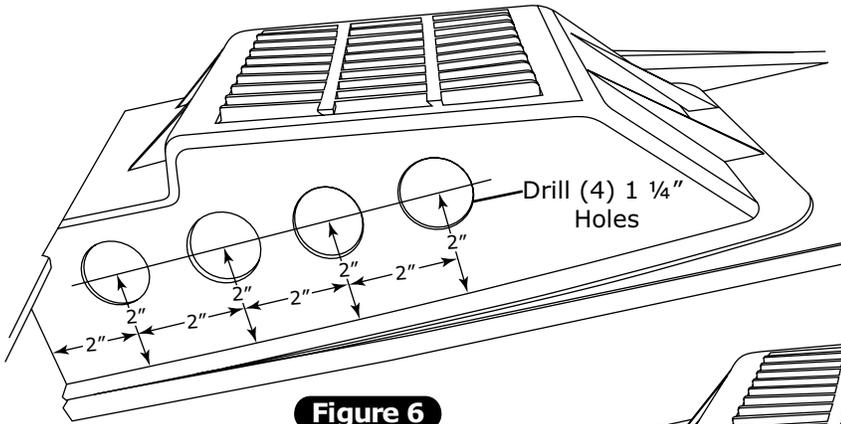

Figure 6
1. Drill (4) 1 ¼" holes in airbox (See Figure 6, below).